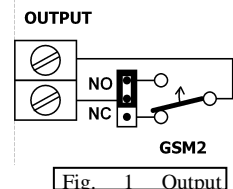

Fig. 1 Output
Elmes GSM2 module features four control relay outputs. Each output has two installation terminals jumper configured to operate in normally opened (NO), or normally closed (NC) mode (see figure 1). Outputs feature the following "GSM2 Configurator" software set parameters: